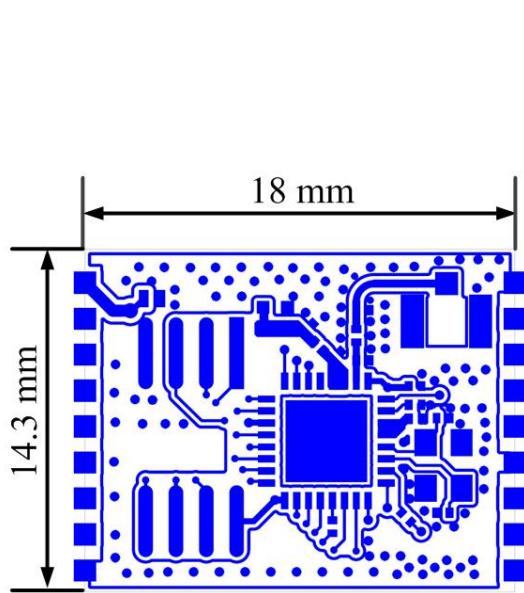
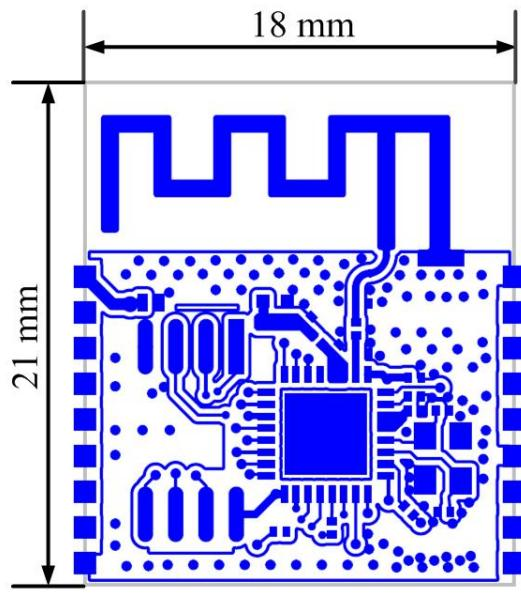

Figure 4-1 TB1206 - E appearance size figure
Figure 4-2 TB1206 -p appearance size figure
TB1206 is divided into TB1206-E and TB1206 - P two types depending on the different types of antenna, TB1206 - E size of the appearance is 18 mm (W) x 14.3 mm (L) x 3.5 mm (H), Its appearance dimensions is as shown in figure 4-1, TB1206 -p appearance size is 18 mm (W) x 21 mm (L) x 3.5 mm (H), Its appearance dimensions is as shown in figure 4-2.